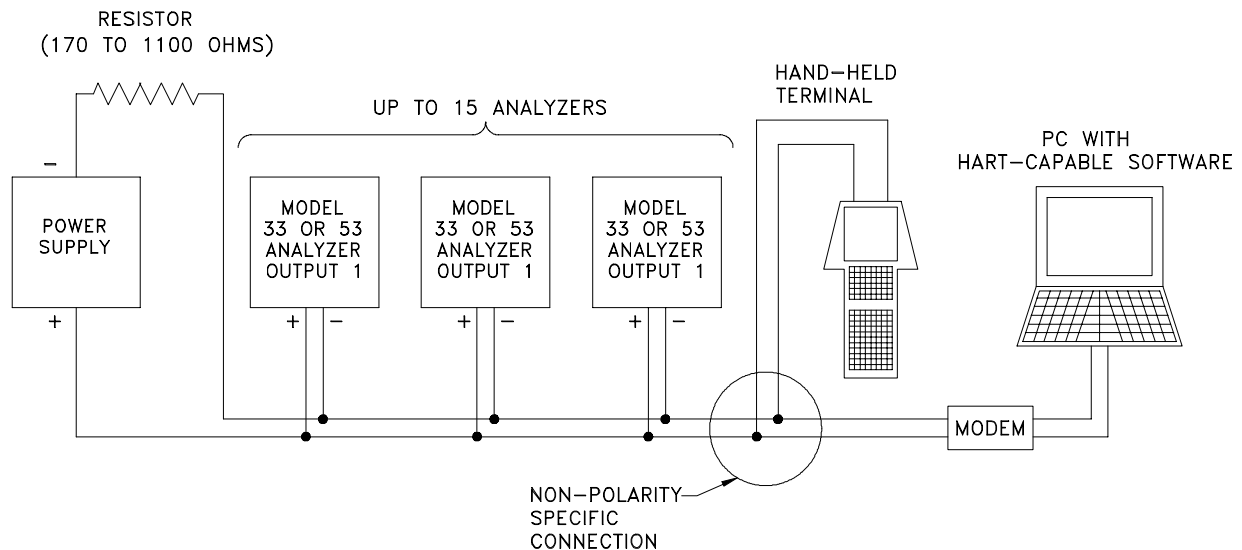

FIGURE 3-4 HART MULTI-DROP Wiring Connections (for multiple analyzer network)
2. Refer to Figure 3-4 and connect the 4-20 mA analog Output 1 signal of each analyzer in parallel on one cable, matching polarity as shown.